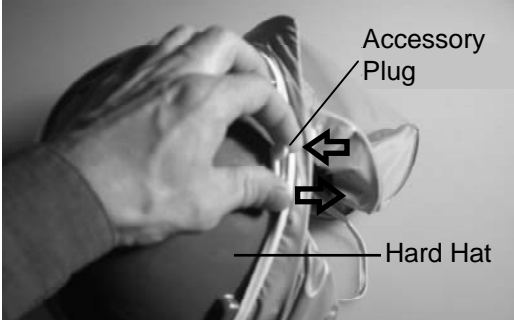

Figure 20
1. Remove the accessory or Accessory Plugs from the slots on the Hard Hat (fig. 20)